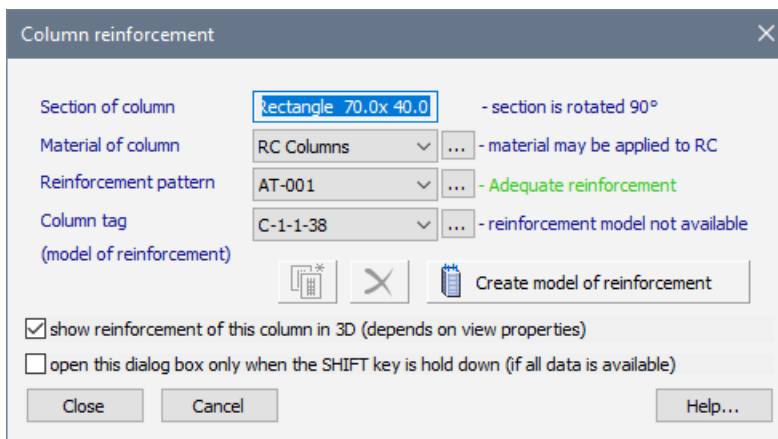

Figure 27.19. Column reinforcement dialog box
- ⇒ In the **Column reinforcement** dialog box (see Fig. 27.19), click the **Create model of reinforcement** button.